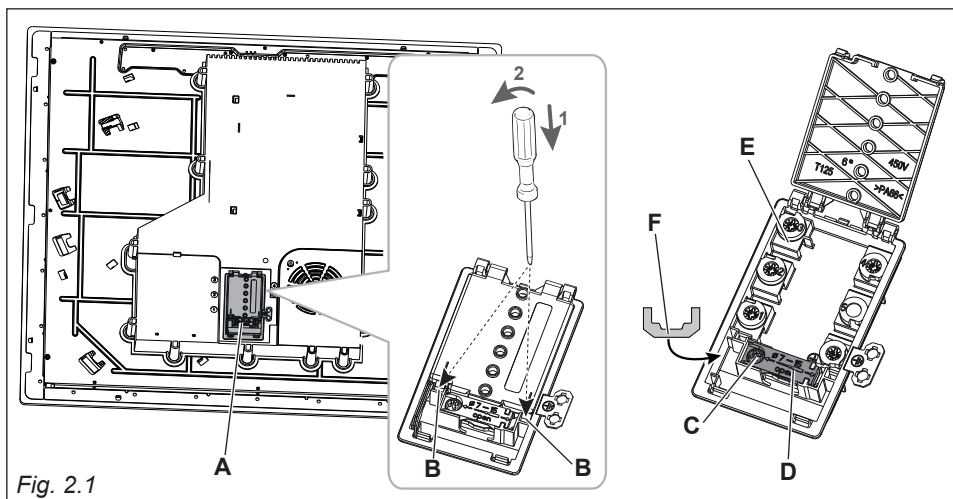

Fig. 2.1
- Unhook the terminal board cover “A” by inserting a screwdriver into the two hooks “B” (fig. 2.1).
- Unscrew the screw “C”, then unhook the cable clamp “D” (fig. 2.1).